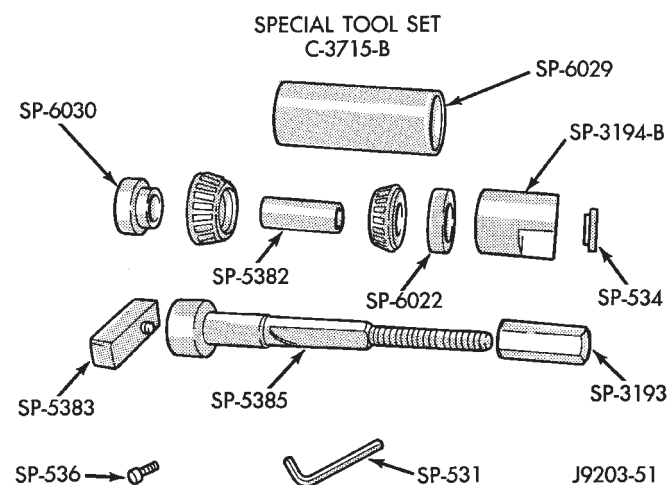

Fig. 53 8 1/4 Axle Pinion Adjustment Tools
(1) Install front pinion bearing cup. Use Installer D-130 and Handle C-4171.
(2) Install rear pinion bearing cup. Use Installer C-4308 and Handle C-4171.
(3) Use Pinion Gear Adjustment Gauge Set C-3715-B (Fig. 53).
(4) Position Spacer SP-6030 over Shaft SP-5385.
(5) Position pinion rear bearing on shaft.
(6) Position tools (with bearing) in the housing.
(7) Install Sleeve SP-5382.
(8) Install pinion front bearing.
(9) Install Spacer SP-6022.
(10) Install Sleeve SP-3194-B, Washer SP-534, and Nut SP-3193.